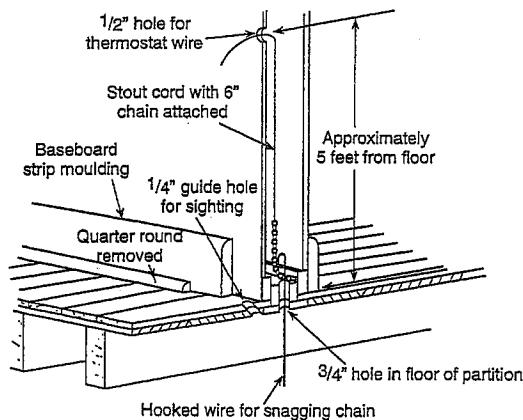

Figure 2. Routing thermostat wires
3. Probe for obstructions in partition before drilling  $\frac{1}{2}$ " hole in wall at selected location. Take up quarter round and drill a small guide hole for sighting (see fig. 2). From basement, drill  $\frac{3}{4}$ " hole in partition floor next to guide hole. In houses without basements, drill  $\frac{1}{2}$ " hole through ceiling and into partition from above (see fig. 2).
3. Pull wires through the opening in the thermostat base and connect wires beneath the terminal screws (see Fig. 2 & 3).